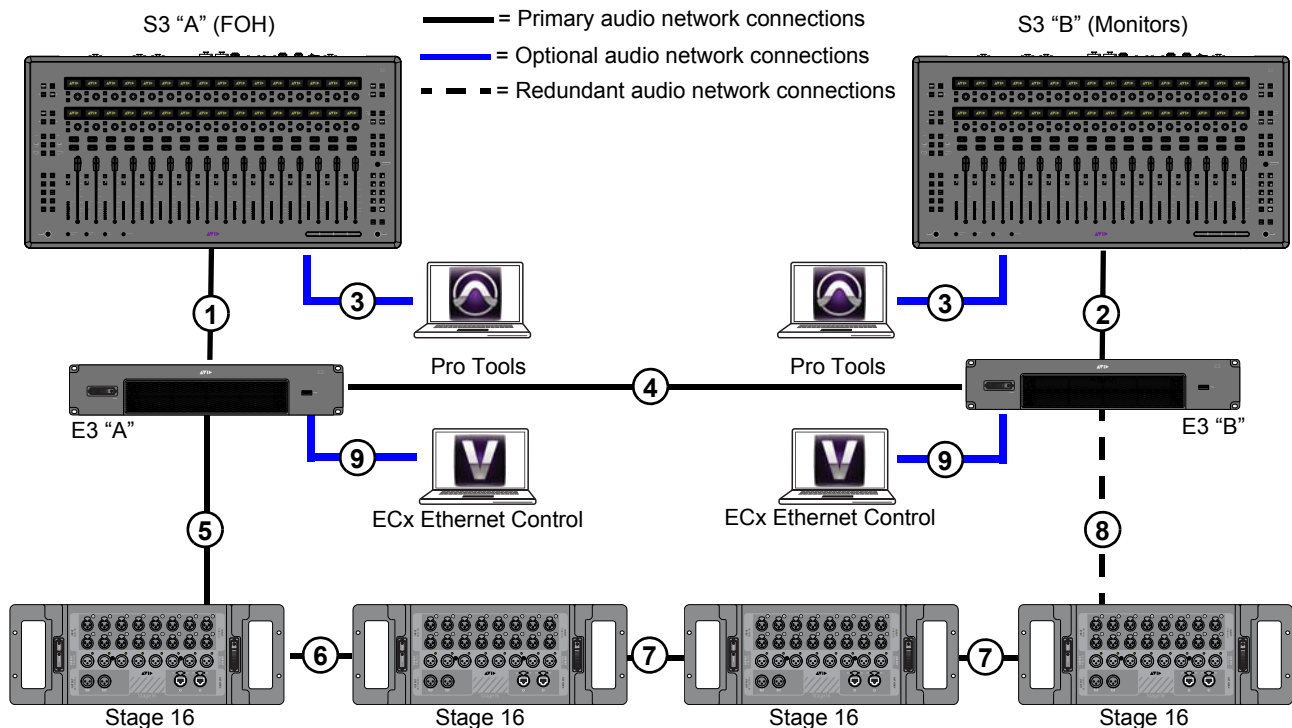

Figure 1. A shared Stage input configuration
- 1 Connect an Ethernet cable from a Network port on S3 control surface “A” to a Network port on the corresponding E3 engine (E3 “A” in Figure 1).
- 2 Connect an Ethernet cable from a Network port on the S3 “B” to a Network port on the corresponding E3 (E3 “B” in Figure 1).